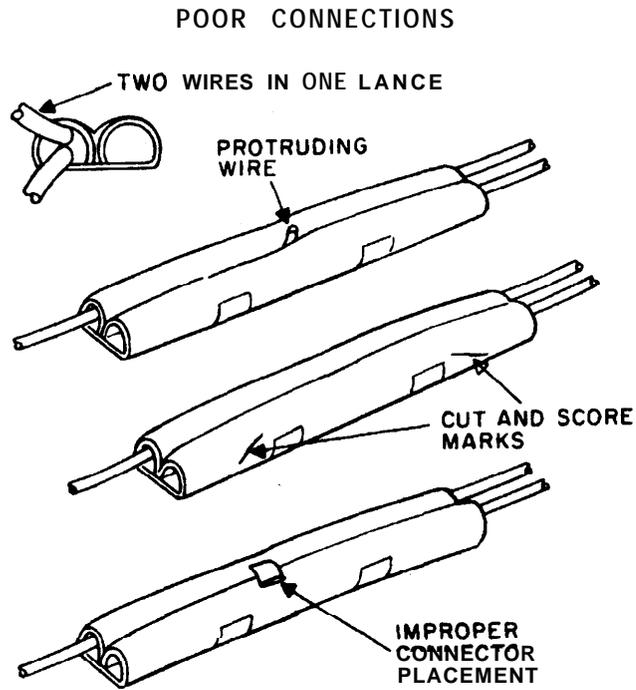

Figure 12. Examples of Poor Connections.
5.06 In the course of making crimped connections with the VS-3 tool or when using the crimp gauge, visually check the Picabond connectors for the following: (See Figure 12)